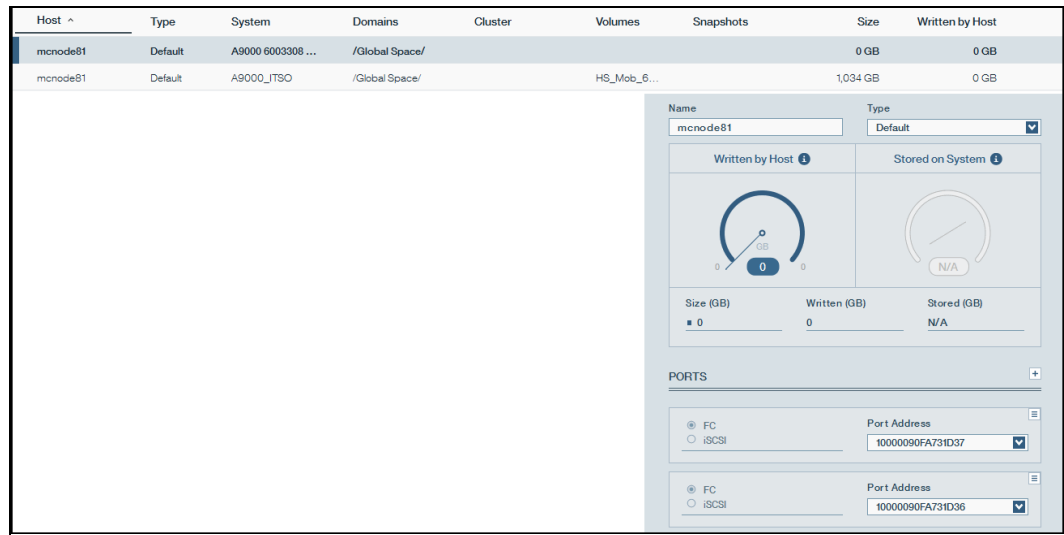

Figure 3-8 Newly defined host and port on the destination IBM FlashSystem A9000
- The new host and port definitions are now visible in the Hosts tab of the Hyper-Scale Manager display, as shown in Figure 3-8 (shown with the panel display added).